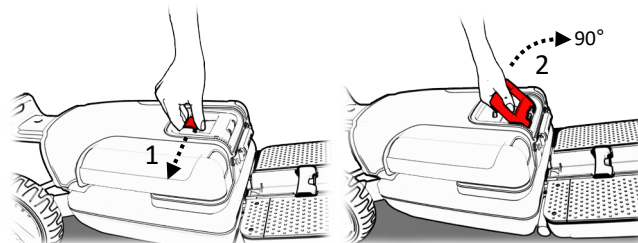

Figure 13
11. Place one hand on the tiller and with the other hand release the secure lever of the back handle (1) and bring the handle to upright position at 90 degrees (2). (see Figure 13).